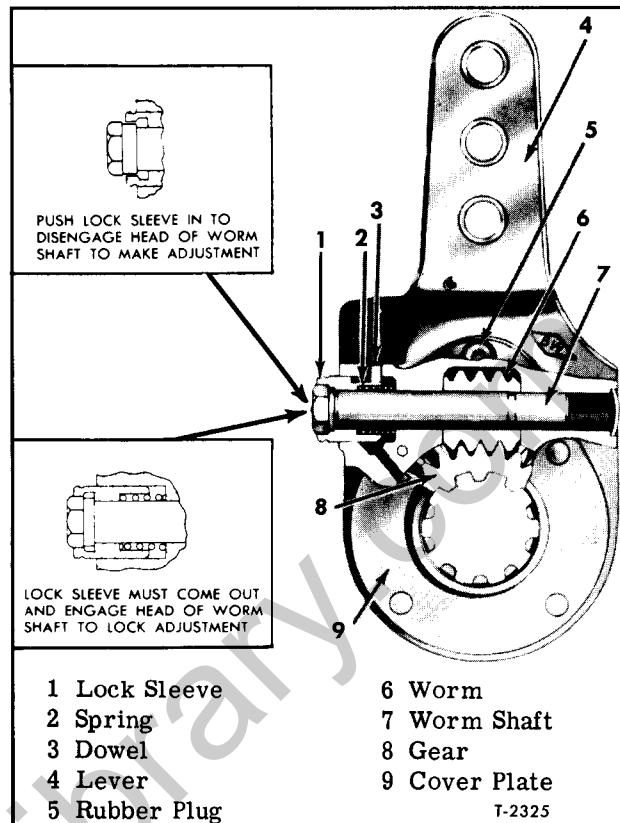

Figure 7—Slack Adjuster
Slack adjusters function as adjustable levers and provide a quick and easy method of adjusting the brakes to compensate for normal lining wear. Positive-locking type slack adjusters are used on all vehicles. Internal construction of all slack adjusters is as shown in figure 7, however, lever arm (body) may be offset to suit installation requirements. Refer to "Air Brake Specifications" at end of this section to determine slack adjuster type used.
NOTE: Lock sleeve must be pushed in before worm shaft can be turned (fig. 7). Make sure sleeve is pushed in far enough to clear hex end of worm shaft before turning shaft.
2. Be sure wheel turns freely with brakes fully released. After completing adjustment, make sure lock sleeve comes out and engages hex end of worm shaft (fig. 7). Pry sleeve out with screwdriver if necessary. Coat lock sleeve and end of worm shaft with wheel bearing grease to keep out dirt and moisture to assure free movement of sleeve at next adjustment.